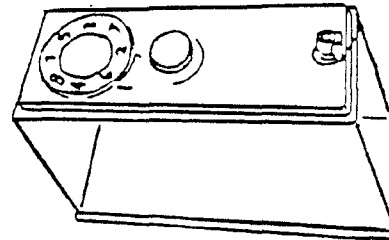

Fig. 2
4. Install bowl spout gasket (*See Fig. 2*).